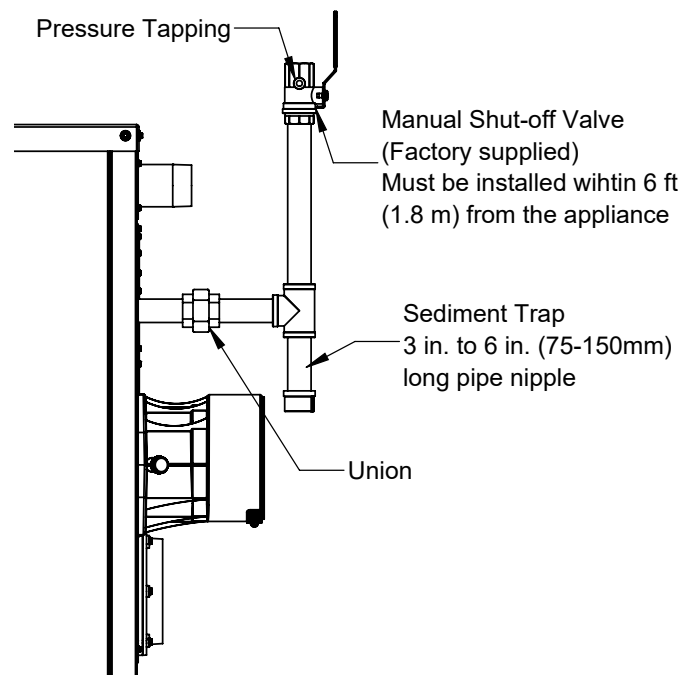

Figure 22: 400-1000 Gas Connection
1. A manual shutoff valve is shipped loose with the appliance and should be installed as shown in Figure 22 with a sediment trap.